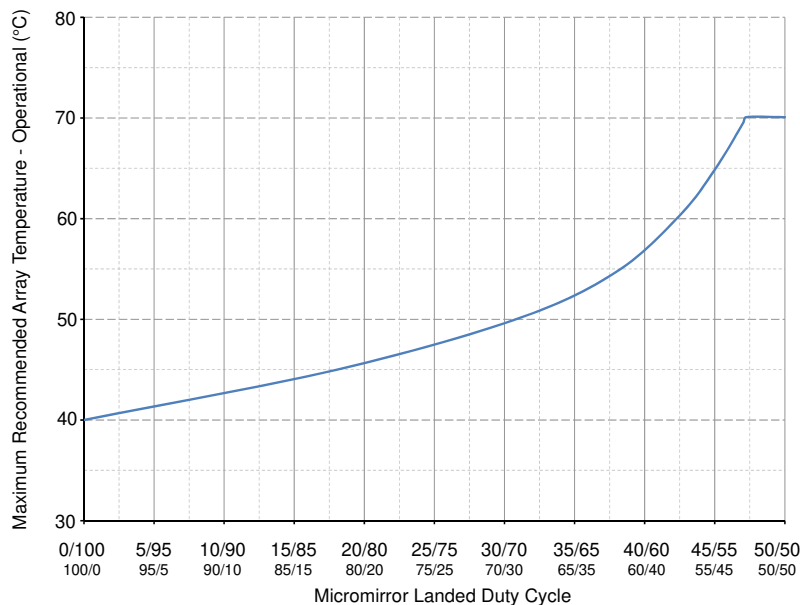
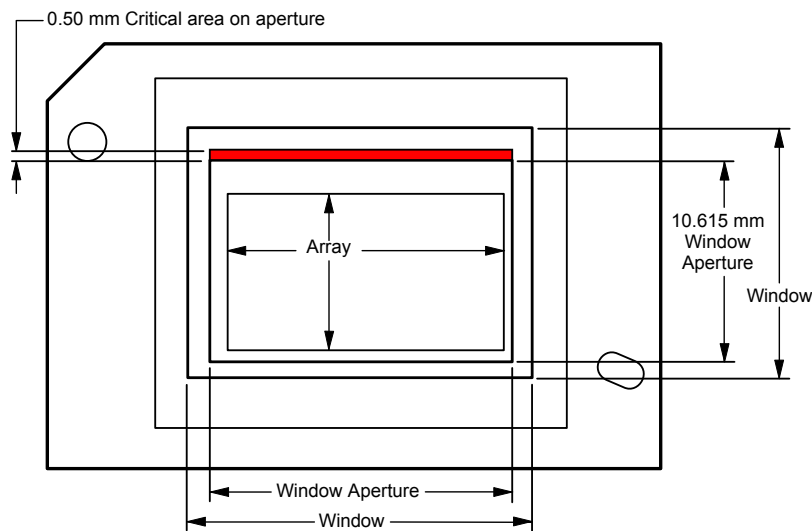

Figure 5-1. Maximum Recommended Array Temperature—Derating Curve
Figure 5-2. Illumination Overfill Diagram—Critical Area
- (12) Per Figure 5-1, the maximum operational array temperature should be derated based on the micromirror landed duty cycle that the DMD experiences in the end application. Refer to Micromirror Landed Duty Cycle for a definition of micromirror landed duty cycle.
- (13) Long-term is defined as the usable life of the device.
- (14) Short-term is the total cumulative time over the useful life of the device.
- (15) The average over time (including storage and operating) that the device is not in the elevated dew point temperature range.
- (16) Exposure to dew point temperatures in the elevated range during storage and operation should be limited to less than a total cumulative time of CT_{ELR}.
- (17) The active area of the DMD is surrounded by an aperture on the inside of the DMD window surface that masks structures of the DMD device assembly from normal view. The aperture is sized to anticipate several optical conditions. Overfill light illuminating the area outside the active array can scatter and create adverse effects on the performance of an end application using the DMD. The illumination optical system should be designed to minimize light flux incident outside the active array. Depending on the particular system's optical architecture and assembly tolerances, the amount of overfill light on the outside of the active array may cause system performance degradation.
- (18) Applies to the region in red in Figure 5-2.